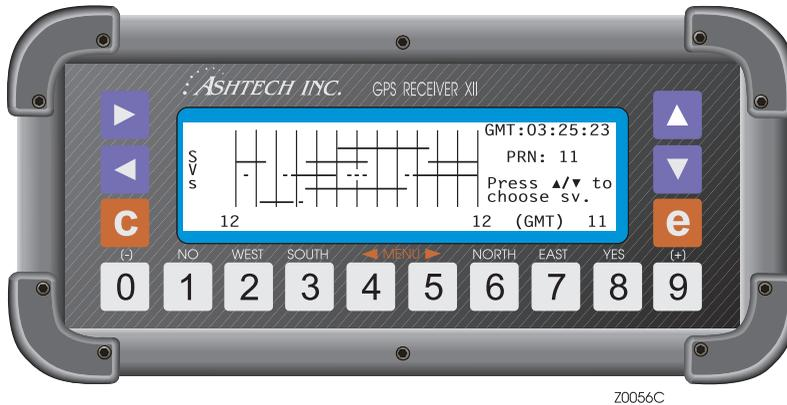

Figure 5.6. Visibility Information
- You may periodically review Screen 1 and Screen 11, Visibility Information, Figure 5.6, to check that your chosen satellites are still available.